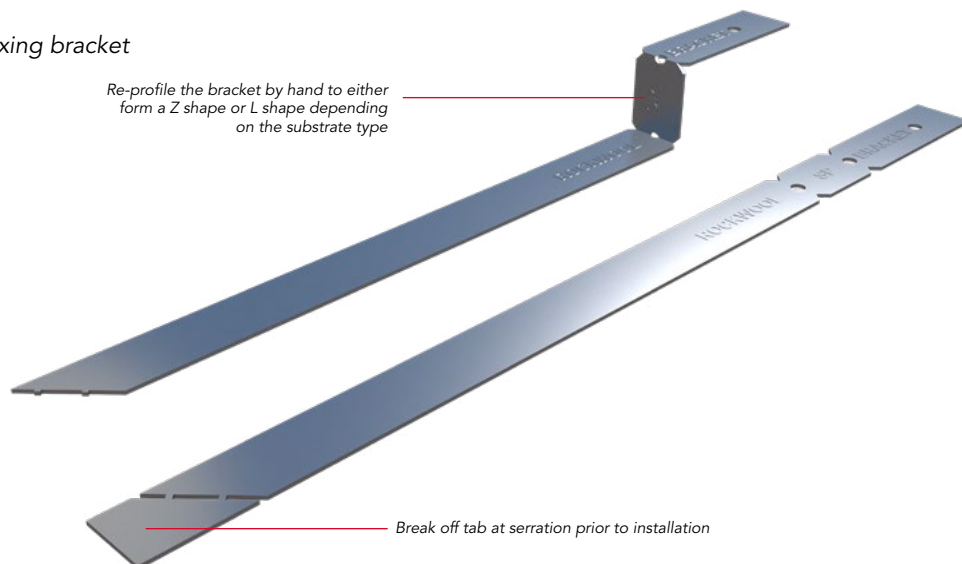

Figure 3
4. Secure the SP Fixing Brackets to the substrate using metal fixings appropriate to the substrate (Figures 3 to 6).
- a) Horizontal orientation: Foil tape should be applied to all joints on the upper face of the SP FireStop EN strips (Figure 3).